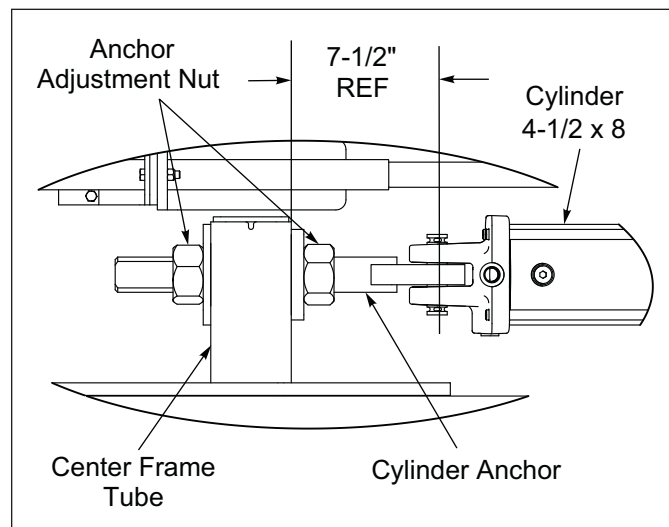

Figure 3-2: Center Frame Hyd Cyl Spacing
2. If Tooth Tubes are not parallel to the Frame, check measurement from the Center Frame Tube or Wing Frame Tube to the Cylinder Pin. **See Figures 3-2 and 3-3.** Note the dimensions shown are a starting point.